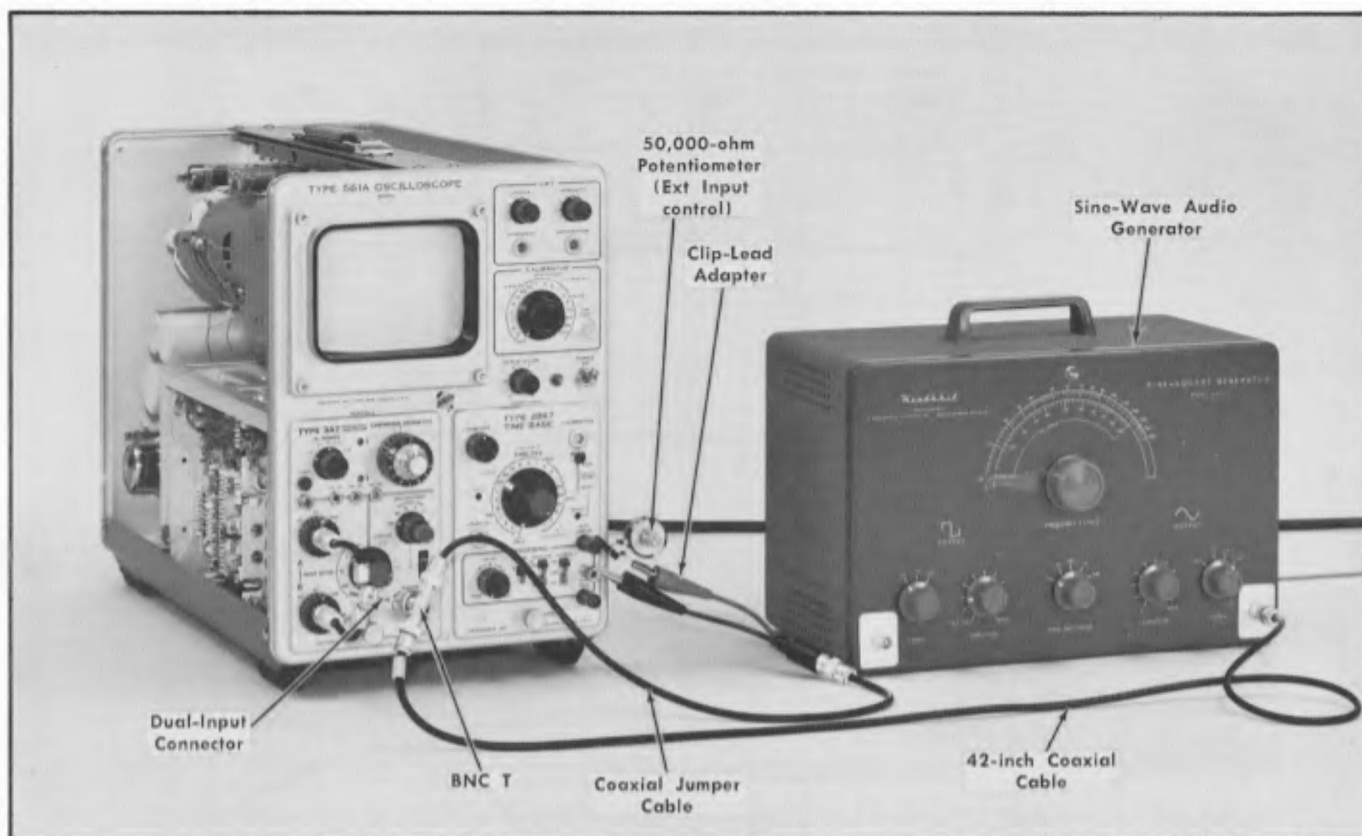

Fig. 5-18. Setup at completion of step 18d.
c. Apply a 30-volt (15 volts peak referenced to ground), 20-Hz sine-wave signal from an audio generator through a 42-inch coaxial cable, a BNC T connector and a dual-input connector (item 13) to the A and B input connectors on the Type 3A7.
d. Connect a coaxial jumper cable and clip-lead adapter between the BNC T connector and the time-base Ext Input connector. If the time-base unit does not have a control for the external input, connect a 50,000-ohm potentiometer between the Ext Input connector and ground. Connect the center conductor clip lead to the potentiometer wiper arm. Fig. 5-18 shows the complete setup when a Type 2B67 is used as the time-base unit.
d. Connect a coaxial jumper cable and clip-lead adapter between the BNC T connector and the time-base Ext Input connector. This is the same setup as shown in Fig. 5-18. (If a Type 2867 is used, connect the clip-lead adapter to the 50,000-ohm potentiometer as shown in the illustration.)